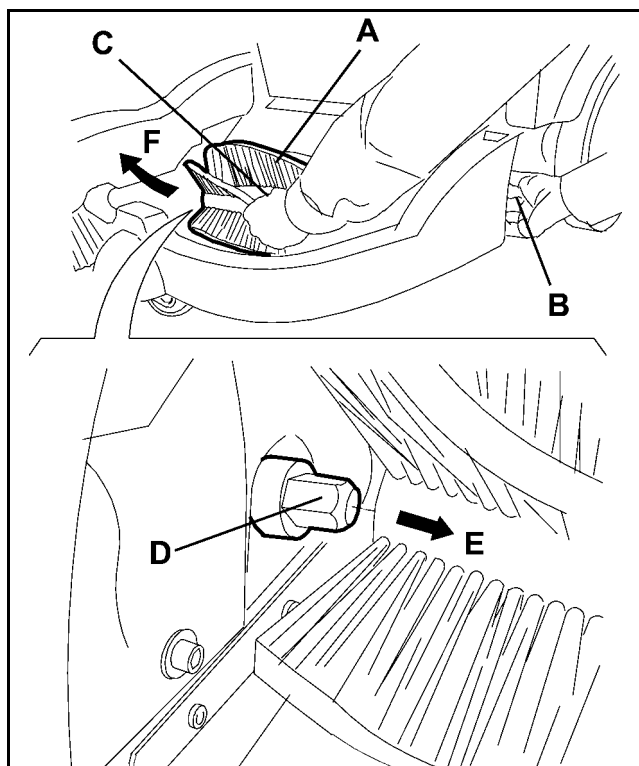

Figure 15
6. Grasp the main broom (A, Fig. 15) on the points (B) and (C), then disconnect it from the drive hub (D) by pulling it in the direction shown by the arrow (E); then remove it in the direction shown by the arrow (F).
7. Install the new broom with the bristles rows (A) inclined as shown in the figure.